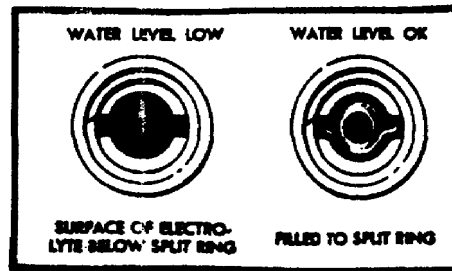

Figure 2-3. Visual Level Fill.
(3) Check the electrolyte level of each cell. At a minimum, the electrolyte level should cover the cell plates (Figure 2-3). When adding water to batteries, the electrolyte level should be brought up to the bottom of the split ring.